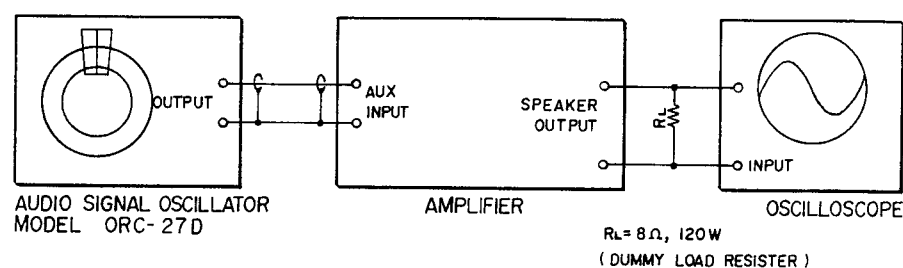

Fig. 3
2. OUTPUT SIGNAL WAVEFORM ADJUSTMENT (See Figs. 3 and 4)
After Idling Current Adjustment has been completed to specifications, replace protector fuse (See Fig. 2 for correct value), and connect measuring instruments as shown in Fig. 3.